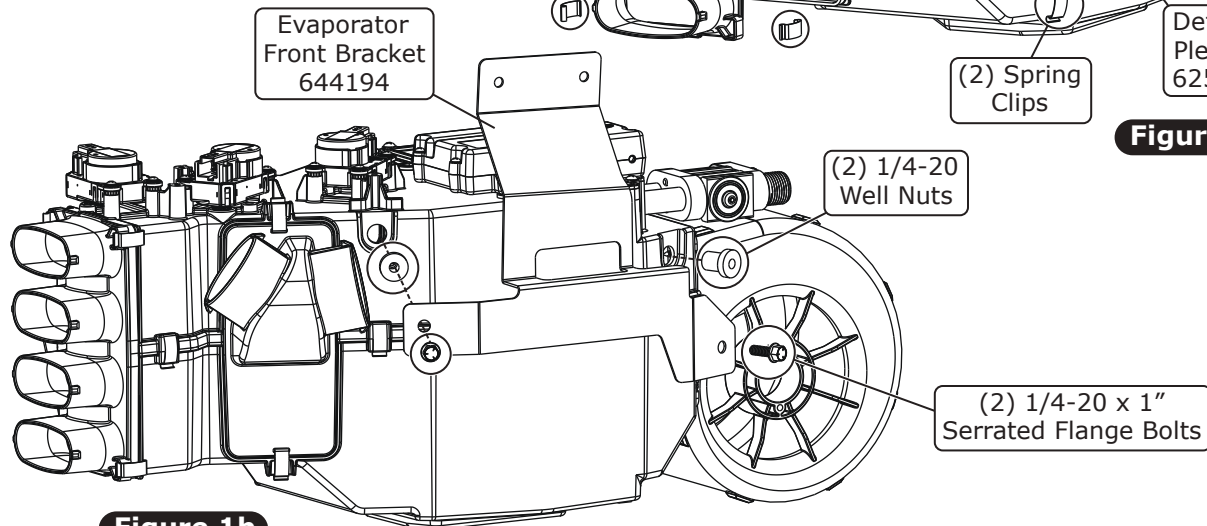

Figure 1b
5. Install the evaporator front bracket onto the evaporator module using (2) 1/4-20 x 1" serrated flange bolts and (2) 1/4-20 well nuts as shown in Figure 1b, below.